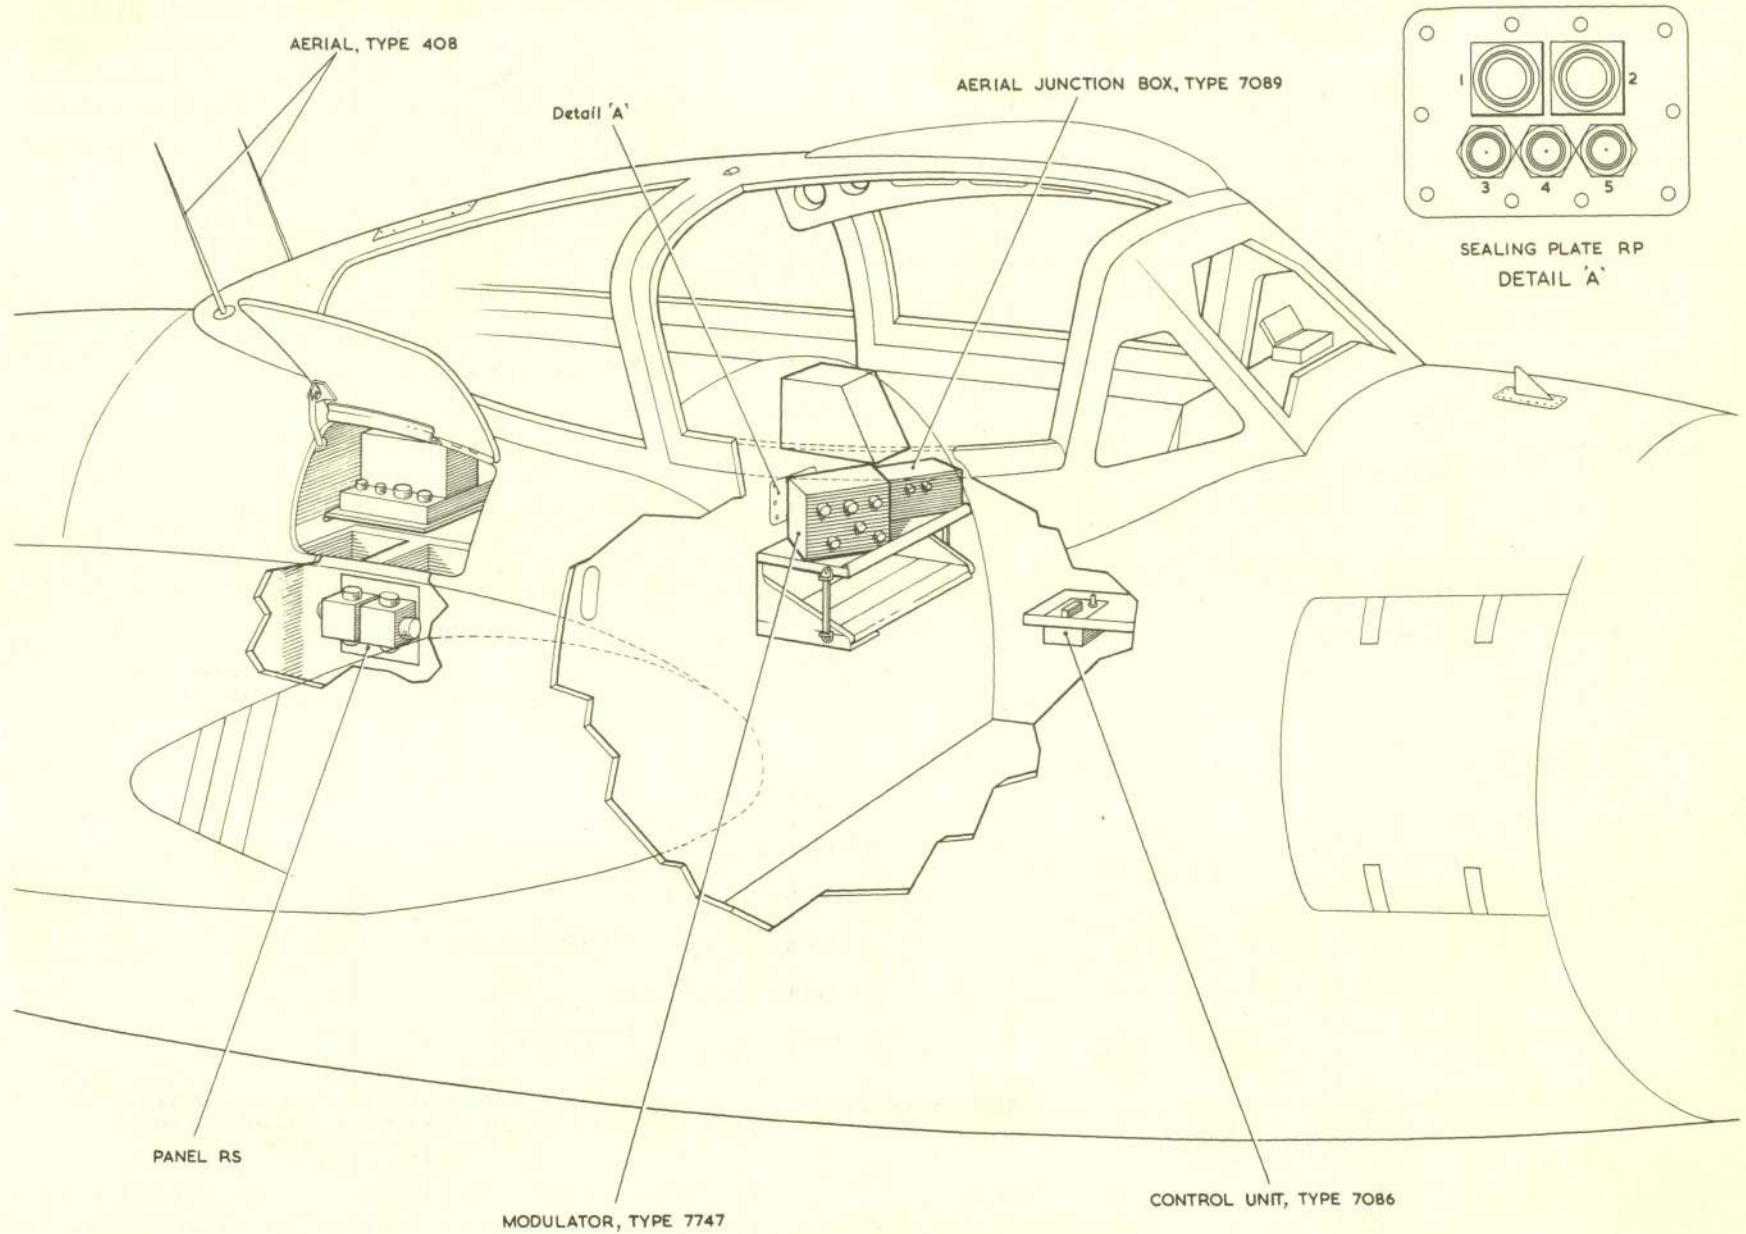
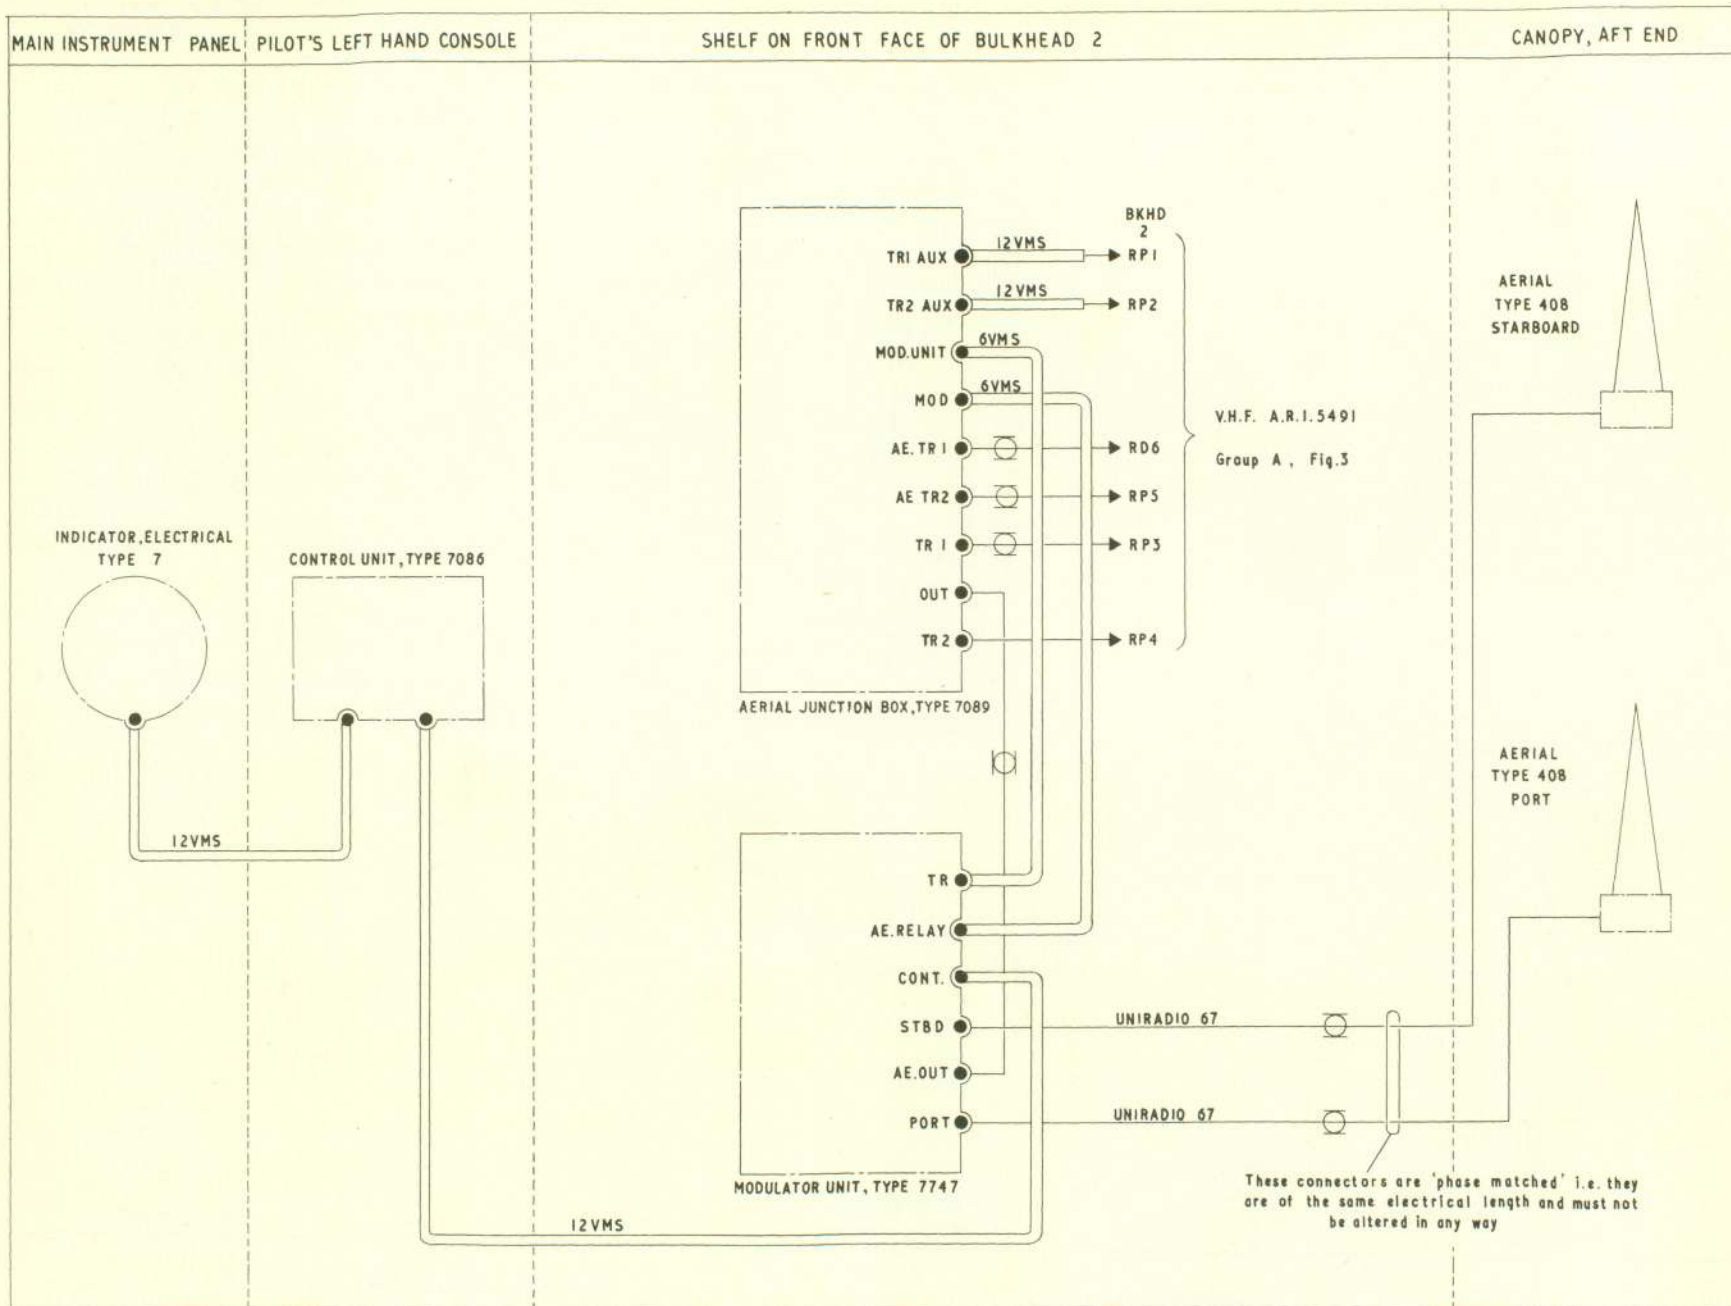

Fig.1 A.R.I. 18049 (V.H.F. Homing) installation
Fig. 2 A.R.I. 18049 (V.H.F. Homing) wiring
1. This group describes the A.R.I. 18049 (V.H.F. Homing) installation in the aircraft when Mod N346 has been incorporated. It includes a brief description of the operation of the equipment, notes on the servicing that can be done in situ and instructions, where necessary, for the removal and refitting of the main units. Fig. 1 shows the location of the units in the fuselage and fig. 2 is a diagram showing the interconnections between the units. Full details of the theory of operation, circuit information, bench testing and setting up procedures are given in A.P. 2898D, Vol. 1.